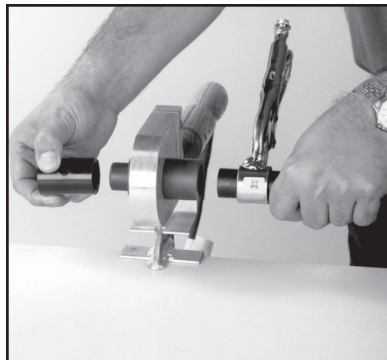

Figure 5
- Grip the pipe behind the cold ring. (See Figure 5)